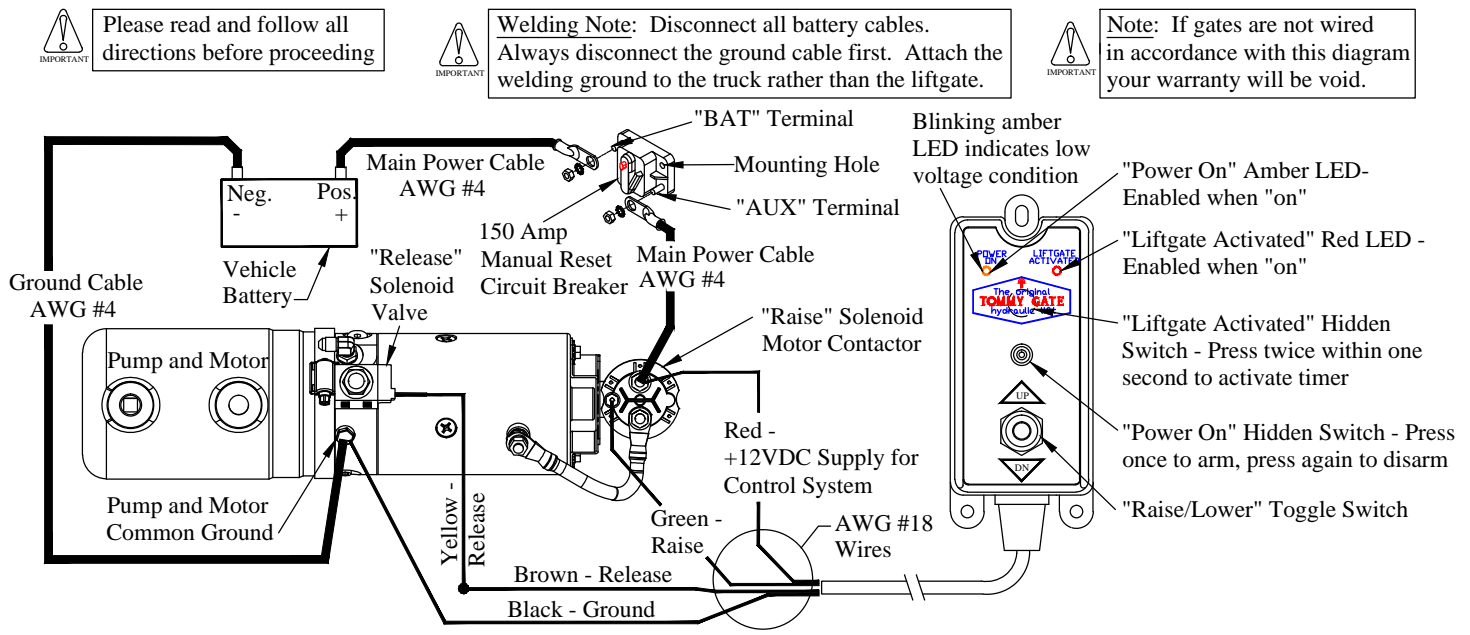

Figure 15: Wiring diagram.
3. **Push** the hidden "Power On" switch (Figure 15). The amber "Power On" LED will illuminate.
12. **Connect** the circuit breaker and battery as outlined in the *Tommy Gate Recommended Electrical Wiring Guidelines* and wiring diagram (Figure 15).